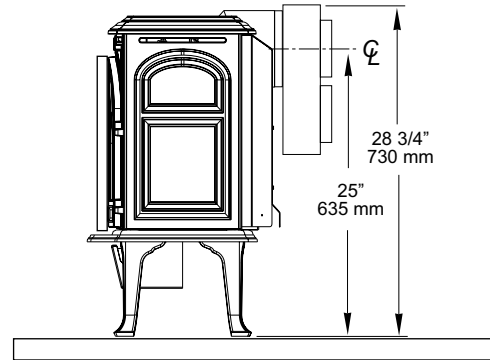

Figure 14. Simpson Dura-Vent #g23GCL Co-linear Adaptor. Subtract 2 1/4" for Short Legs.
This appliance may be vented through a masonry or Class A prefabricated chimney using a Co-linear Flexible lining system approved for use with a solid-fuel burning fireplace. When installed in the manner described below, this system can improve the performance of the appliance in cold climate situations, as well as simplify the vent installation. See figs. 14 - 15.
6. **STUB INTAKE** (fig. 14): If the intake flex duct does not extend the full length of the chimney to fully connect both the unit and termination cap, a sheet metal block-off plate must be installed above the appliance before the end of the intake duct. The plate must completely seal the chimney flue from the living area.